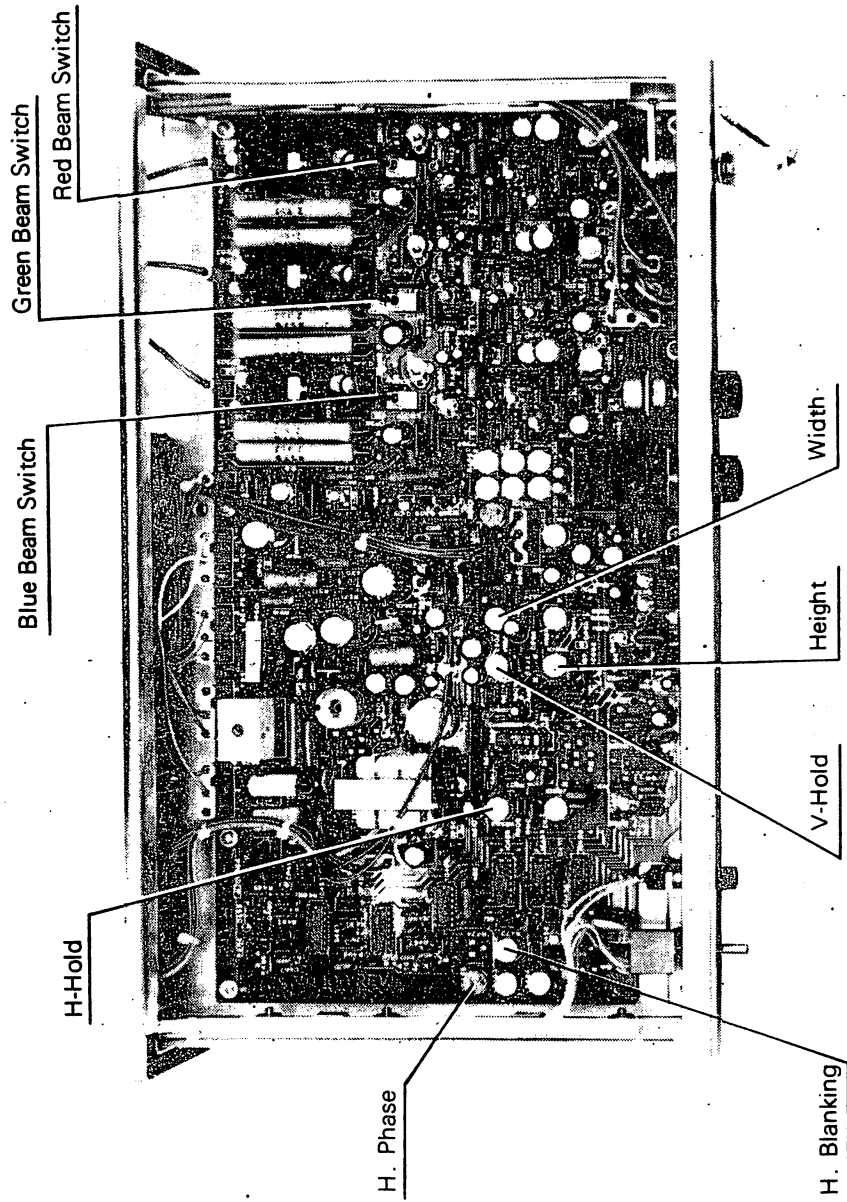

Figure 3-3 Control Drawer
3.2.2 Preliminary Adjustment (Figure 3-3)